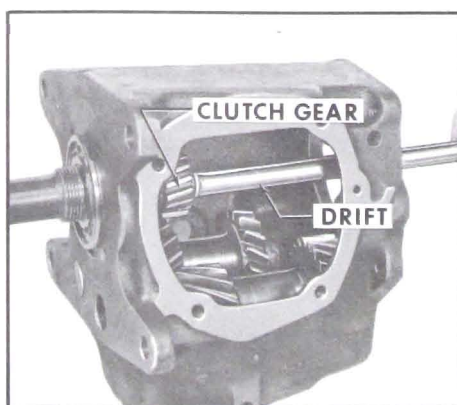

Figure 4-35—Clutch Gear Installation
9. Insert clutch gear from inside case and using a soft drift, tap the outer race of the clutch gear bearing (back of gear) until the bearing locating ring groove is outside the front of the case. Drive the assembly straight to prevent damage. See Figure 4-35.